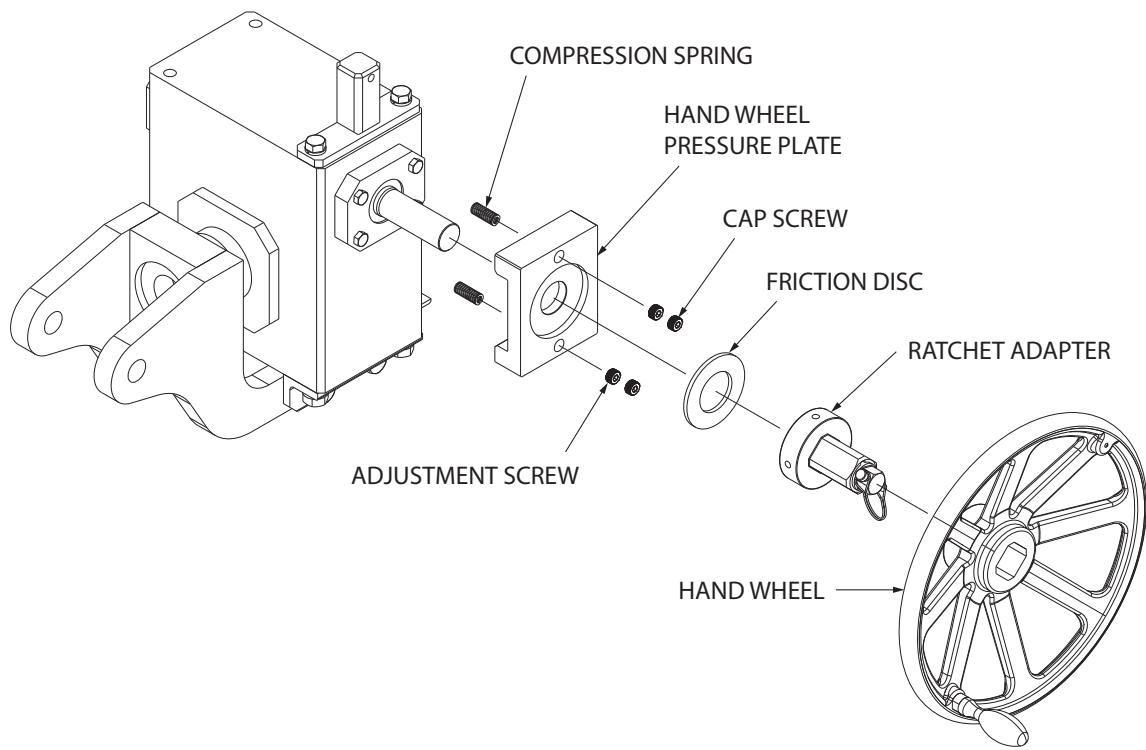

Figure 4.5-2 AGSE-E16626-S04
The inspection and maintenance of the roll operation friction disc clutch (Figure 4.5-2) should be made before each use. All four (4) safety pins (IPB Fig. 1 - Item 17) should be installed to prevent cradle rotation. Install wood blocks at the free end of the jack screw tube brace to maintain the jack current position. Then free the jack screw nut assembly to travel by removing the two (2) connecting pins (IPB Fig. 2 - Items 41 and 42). Rotate the jack screw hand wheel one (1) to two (2) turns and note the amount of force required. The force required to overcome the friction clutch and turn the hand wheel should be approximately 10 to 15 lbs. (45 to 67 N). Inspection and adjustment of the friction clutch assembly is required if there is little or no resistance felt when the hand wheel is rotated.